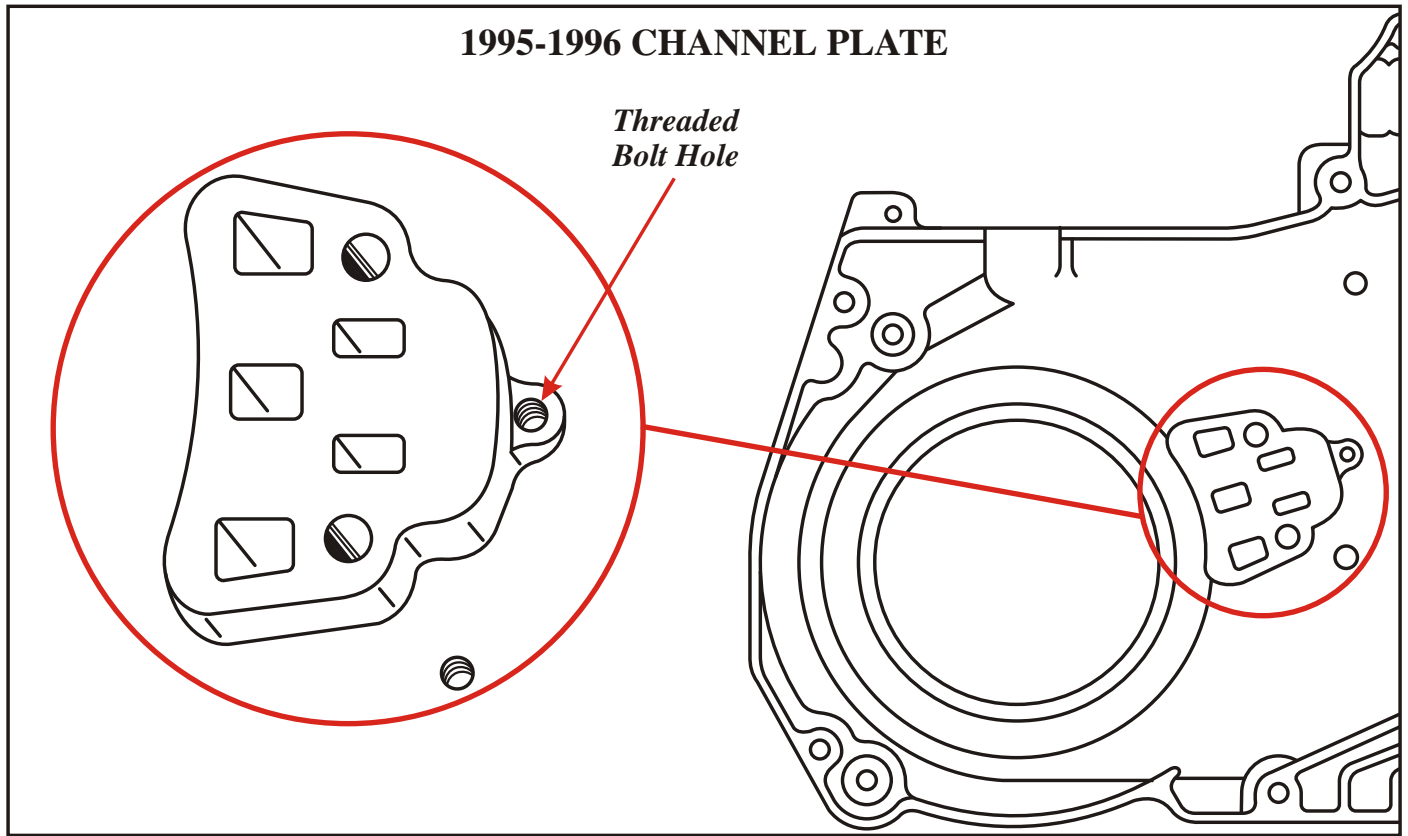

Figure 3
- (2) **CHANNEL PLATE** - New casting with an added boss, and one of the threaded holes in the channel plate changes to a non-threaded hole to accommodate the valve body bolt changes for improved clamping force. The previous design channel plate is shown in Figure 3, and the new design channel plate is shown in Figure 4.